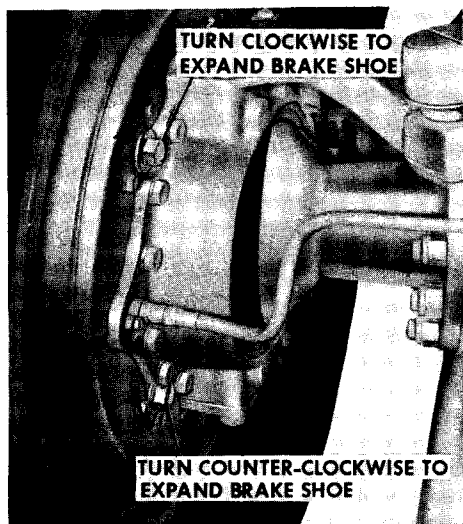

Figure 78
2. Expand brake shoes on each rear wheel, as shown in Figure 78, until a heavy drag is felt when rotating the wheels.